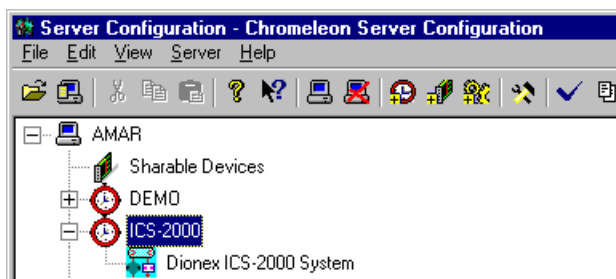

Figure B-15. Server Configuration with ICS-2000 Timebase
1. In the Server Configuration program, click the + icon next to the server name to expand the folder. The timebase you created is displayed (see Figure B-15).